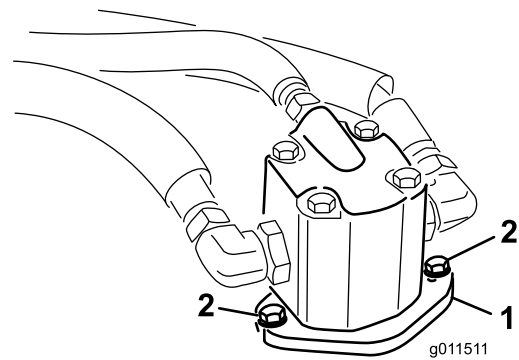

Figure 67
4. Remove the bolts securing the hydraulic motor to the cutting unit (Figure 67). Lift the motor off of the cutting unit and lay it on top of the cutting unit.